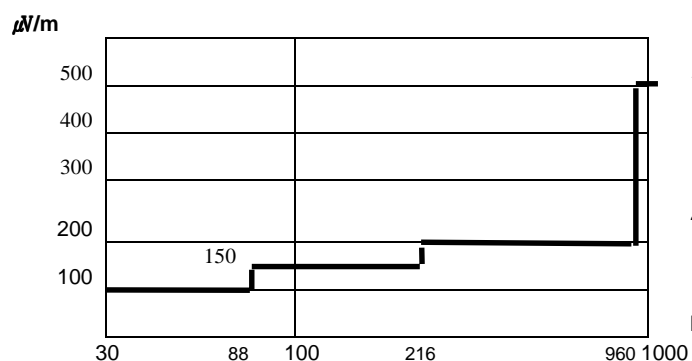

Fig. 4. Limits at 3 meters
2. The radiated limits are shown on Figure 4.